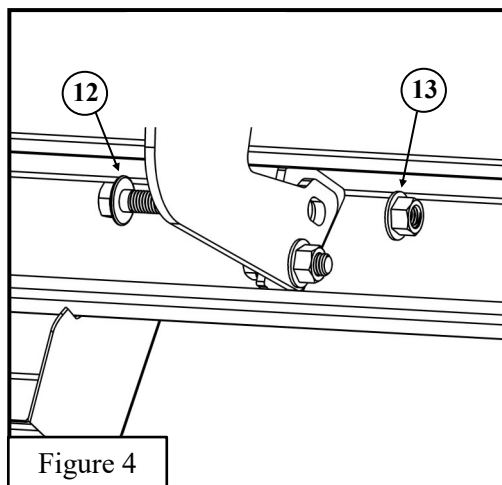

Figure 4
4. Grab Driver Side Bar and install loosely to mount brackets with (6) M10 Flange bolts and (6) Serrated Flange Nuts. See **Figure 4**.